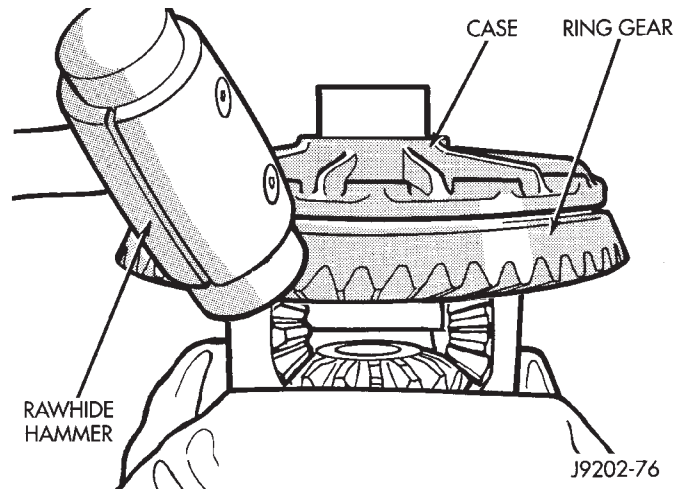

Fig. 14 Ring Gear Removal
(2) Clamp the differential case in a vise equipped with soft jaws. Remove **and discard** the ring gear bolts. Tap the ring gear with a rawhide mallet and remove (Fig. 14).